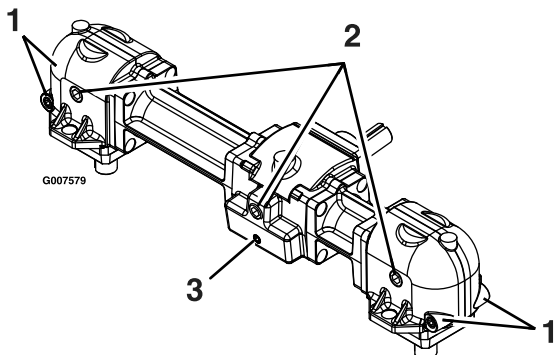

Figure 35
4. Remove the large oil drain plug on the front of each of the three gearbox sections and drain the oil (Figure 35).